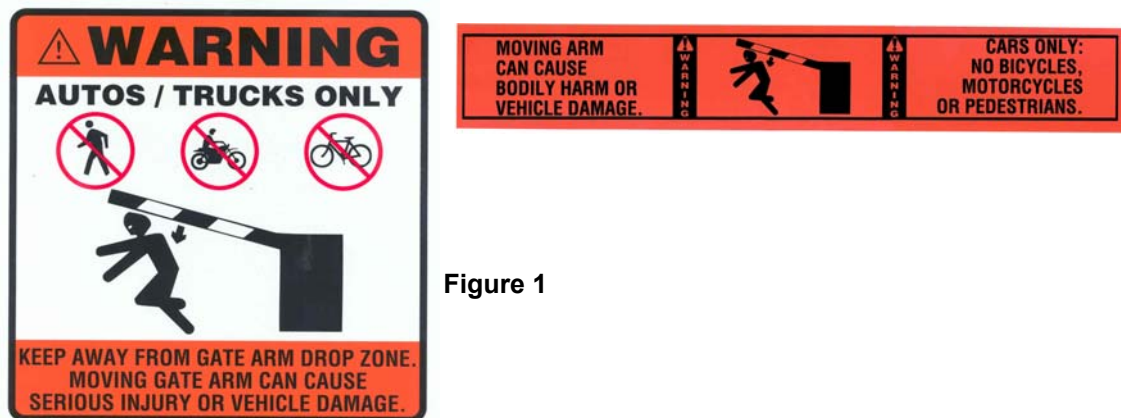

Figure 1
The Magnetic Automation Corp. MIB barriers come with two (2) safety-warning labels (see Figure 1 below) that must be applied to the barrier housing so it can easily be seen when a pedestrian, bicycle users, or motorized vehicle uses the lane. Magnetic Automation Corp. requires that you use universally identifiable pictograms in all entrance/exit lanes, roadways, post, and walls. It is strongly recommended to paint a "NO PEDESTRIAN" pictogram on the roadway immediately adjacent to the parking barrier gate.